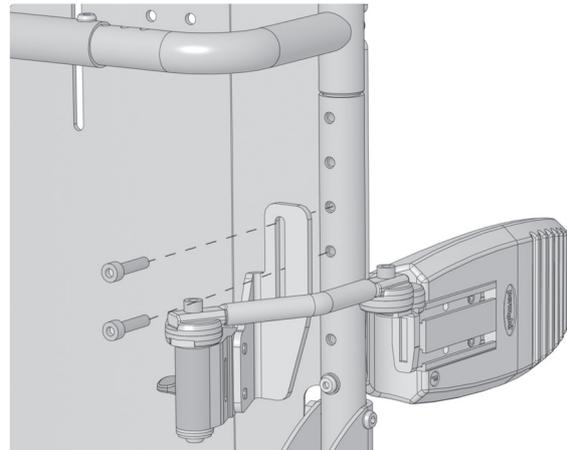

Fig. 13. Mounting the Trunk support on PS Jr.
2. **PS Jr:** Mount the Trunk support on the Back Rest using the accompanying screws(M6x25). See fig. 13.